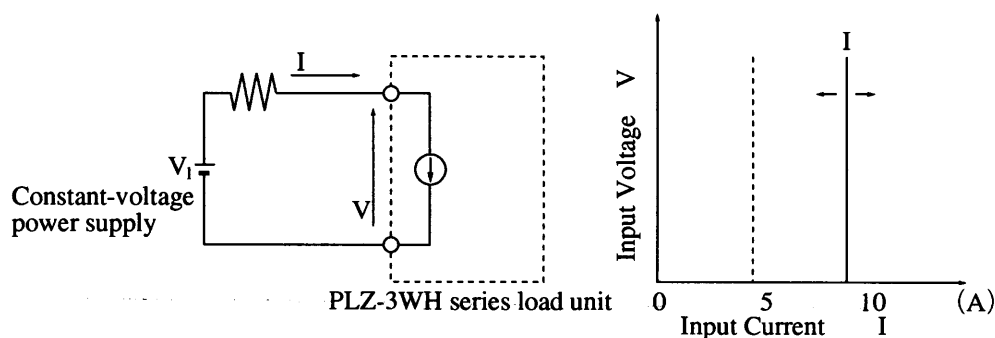

Fig. 4.3-1
■ Basic operation of CC mode (see Fig. 4.3-1)